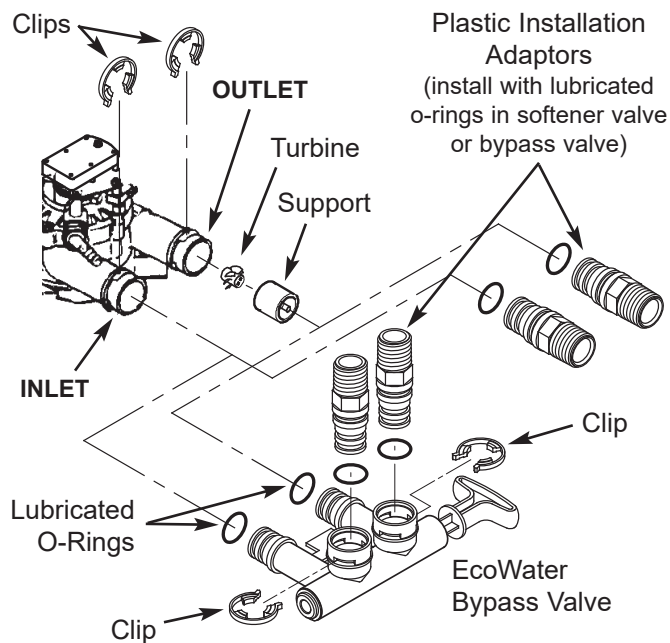

FIG. 6
- If installing a single bypass valve, push the bypass valve, with lubricated o-ring seals in place, into the valve inlet and outlet ports (See Figure 6).
- If installing a 3-valve bypass system, slide plastic installation adaptors, with lubricated o-ring seals in place, into the valve inlet and outlet ports, respectively (See Figure 6).